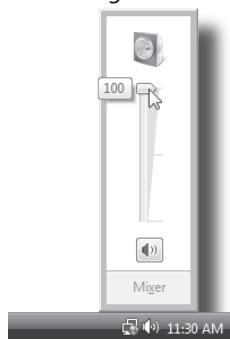

Figure 8
5. To set the volume, click the speaker icon and drag the volume slider (figure 8).